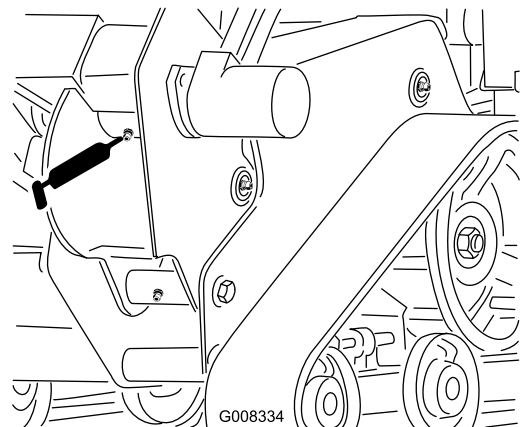

Figure 29
3. Clean the trencher housing grease fitting with a rag and connect a grease gun to it (Figure 29).